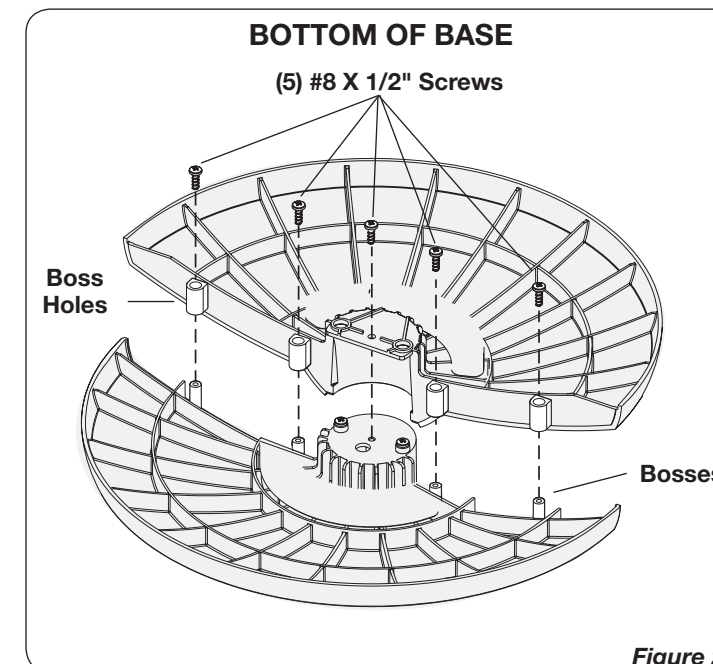

Figure 2
### BASE ASSEMBLY (Figure 2)
2. Secure the (5) #8 X 1/2" Screws into the Boss Holes on the Bottom of Base. (*Figure 2*)